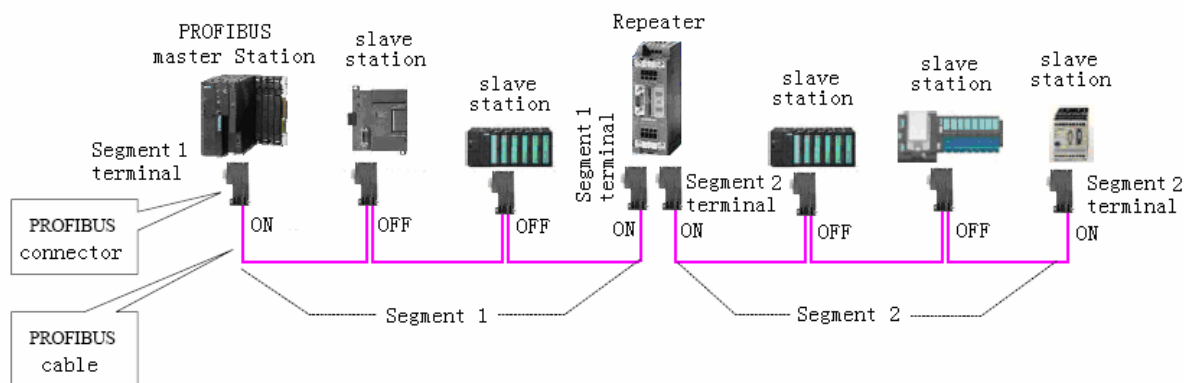

Fig.1-1 PROFIBUS fieldbus adopts bus network topological structure
- 1、As regulated in PROFIBUS Standards, bus network topology is adopted when RS485 is signaled. Network components like repeater and connector, and concepts like network segment, terminal, etc, are also presented in the Standards. As shown in Fig. 1-1, when the cable is longer than the standard-length, or stations in the network are more than that regulated in the specifications, a repeater is needed to cut the bus into Segment 1 and Segment 2, and the head and end of each segment are called terminals.